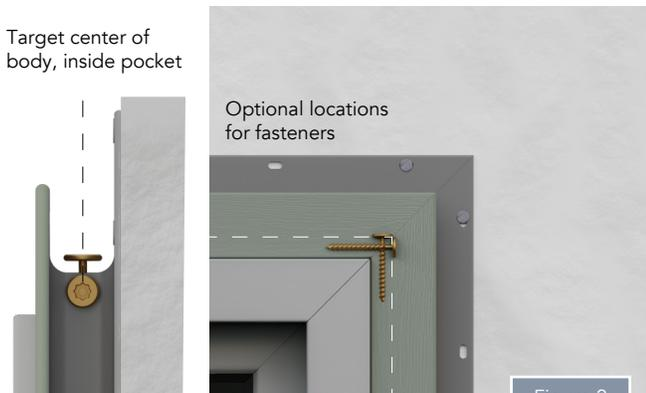

Figure 2
- To join the miter ends, mechanically fasten the joints together through the pocket at the miter, ensuring the fastener is long enough to penetrate the adjacent joint, but not go through. In addition to mechanically fastening the mitered joint, you can also use a PVC adhesive in conjunction with the fasteners, strengthening the miter joint. Make sure you clean the surface you are adhering together with alcohol, and do not allow the adhesive to get on the reveal surface (Figure 2).